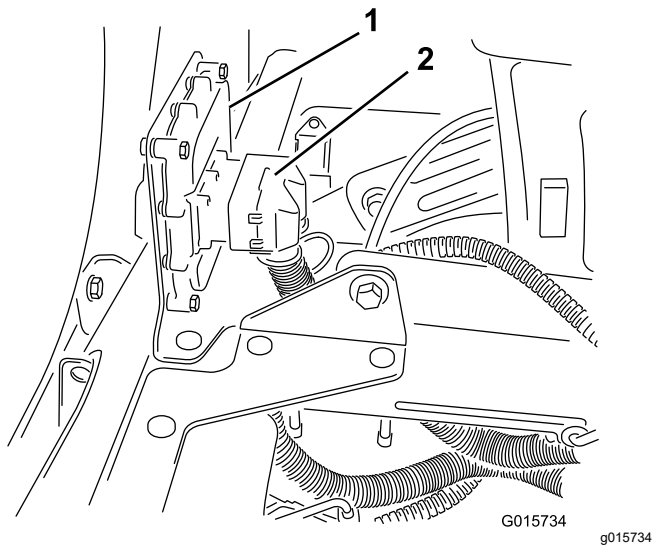

Figure 32
2. Connect the 50-socket connector of the wire harness for the sonic boom to the 50-pin connector of the electronic controller, and secure the connectors with the socket-head screw (Figure 32).